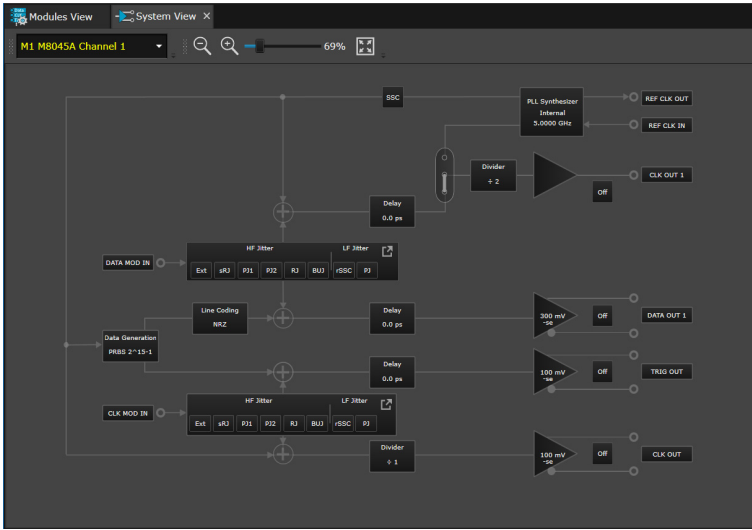

Figure 34 Synthesizer parameters
- b Click on the **PLL Synthesizer Internal** block as shown in Figure 34 on page -83 to display the **Synthesizer** properties.